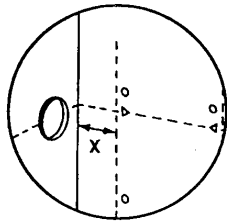

Fig. 37
1. For both Left and Right Hand Flue - Measure the distance from the wall to the nearest line marked from the template. This will be known as dimension X (Fig. 37).